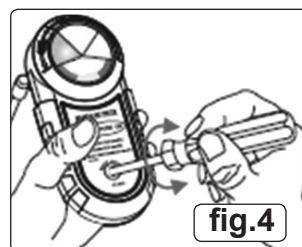

fig.4
- 4.2.4. Press and hold the test button and turn the reset screw anticlockwise fully (fig.4). All the LED's should now be unlit.